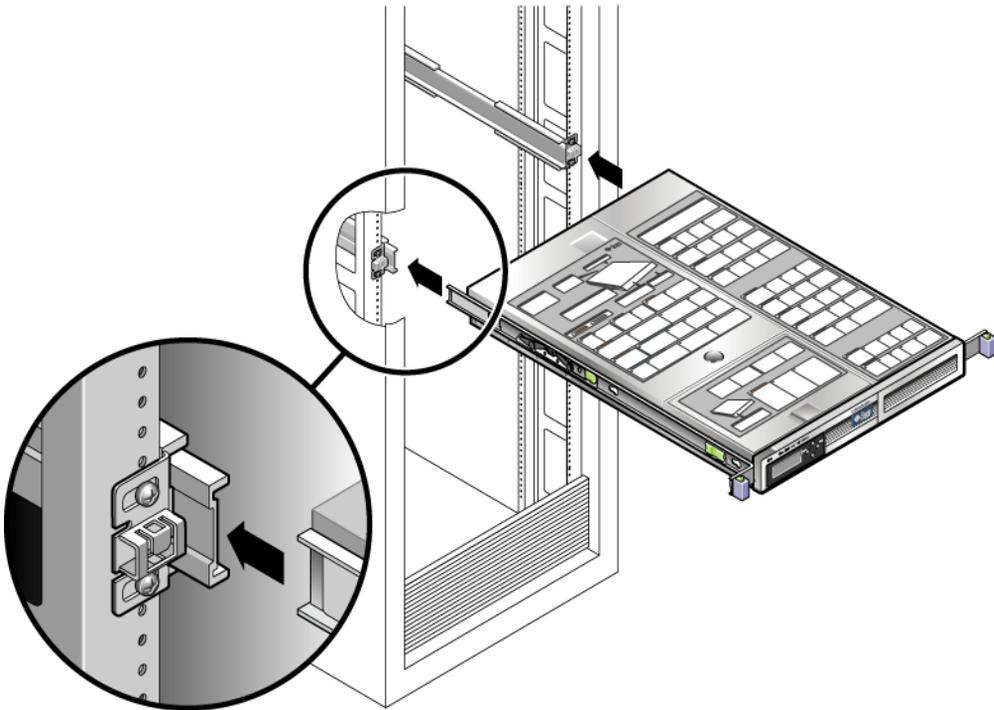

FIGURE 2-18 Mounting the Chassis on the Slide Rails
10. With a partner, lift the appliance and insert the ends of its mounting brackets into the sliding rails (FIGURE 2-18).